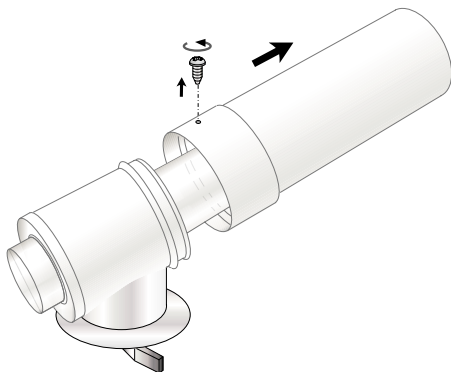

Fig. 1
7. Take the boiler connector section and remove the self tapping screw holding the outer pipe and remove the outer pipe (Fig. 1).